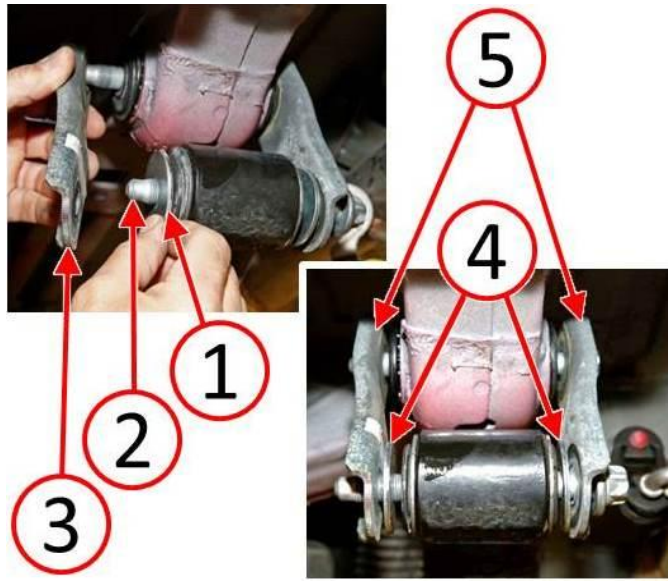

Fig. 15 Assemble Outer Shackle Half
20. Install the NEW spacer washer (1) onto the lower shackle bolt (2) as shown in (Fig. 15).
21. Install the shackle plate (1) onto the shackle bolts with flared-outward end pointing up and flared-inward end pointing down as shown in (Fig. 15).
NOTE: Ensure both spacer washers (4) are positioned between the shackle plates (5) and suspension spring as shown in (Fig. 15).